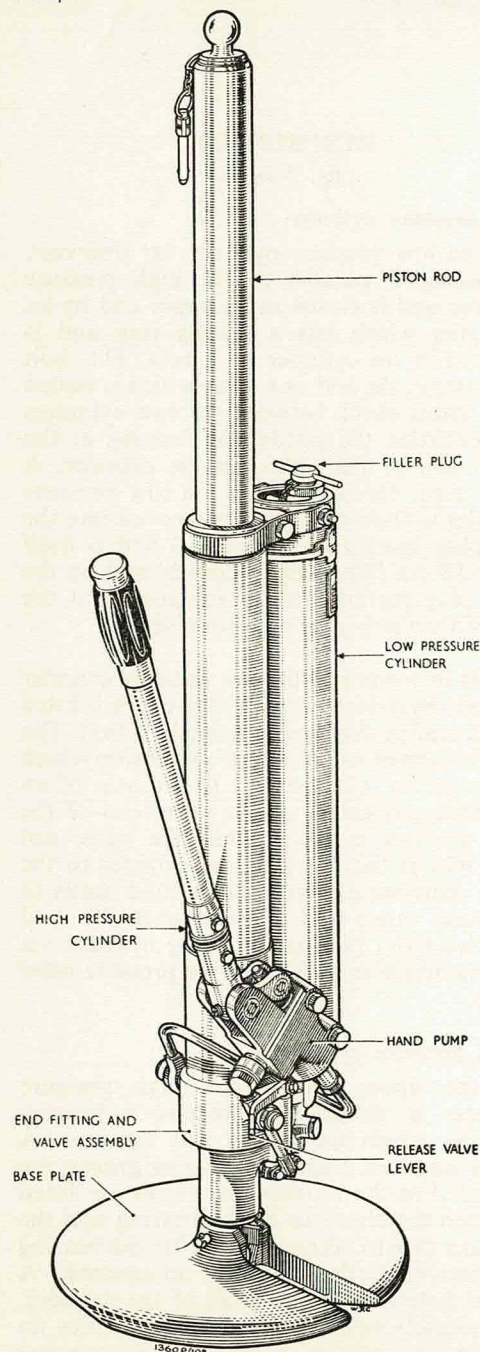

Fig. 1. Support strut
2. The strut consists of a hand pump and two adjacent cylinders, (fig. 1) one a low pressure cylinder or fluid/air reservoir, the other a high pressure cylinder housing a piston which can be moved to an extended position by the